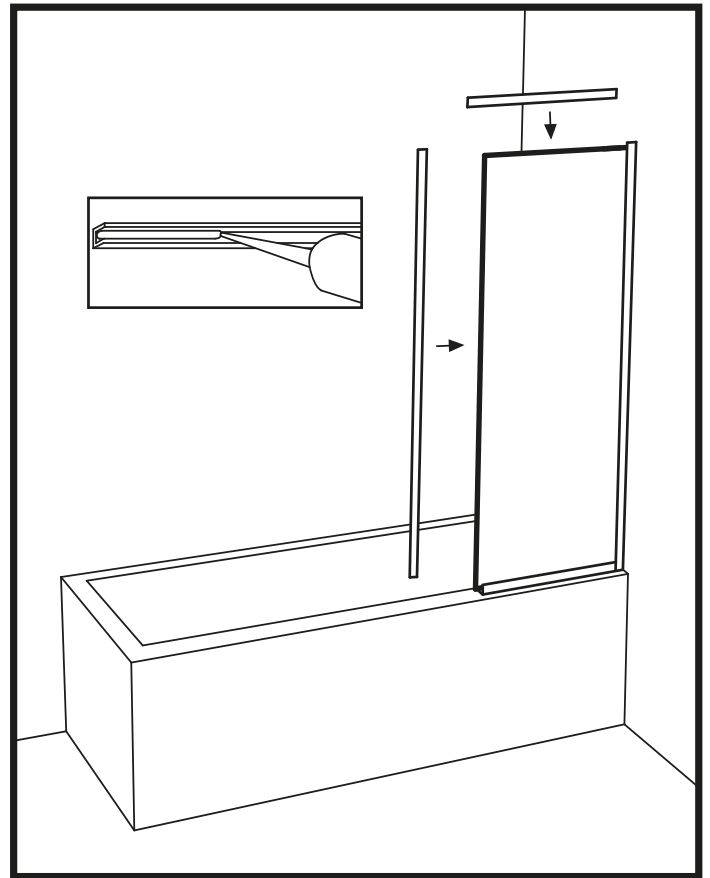

Figure 8
17. Fill the U-channels that have not yet been installed with an even strip of silicone and install the shorter U-channel on the top of the glass first and the longer vertical U-channel last. (Fig 8)